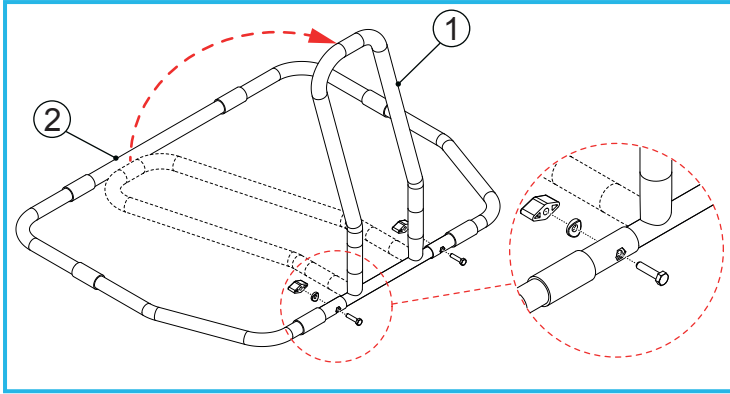

Figure 4: LHS Assembly
1. Refer to Figure 4. Position the bed rail base (2) as shown.
2. Rotate the bed rail handle (1) 90 degrees.